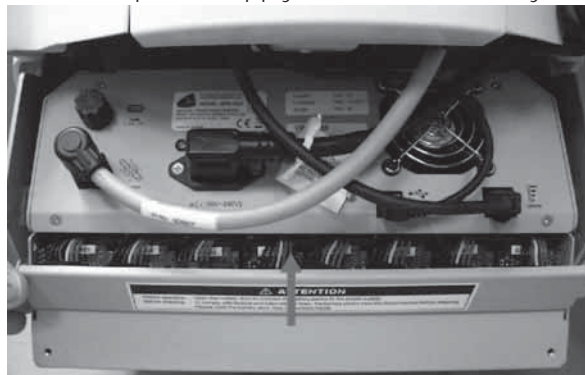

Figure 8: Battery Connector Access Panel - Close
7. Rotate the Battery Connector Access Panel back up, pushing until the top is firmly seated against the case as shown in Figure 8. Re-install the screws on sides of power supply that hold the Battery Connector Access Panel.